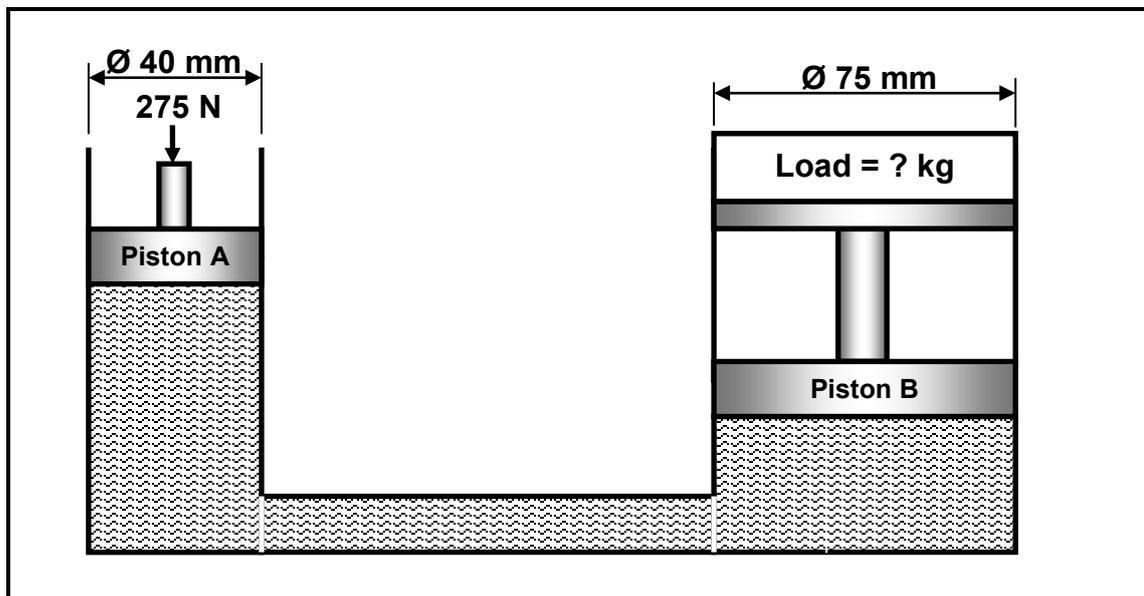

FIGURE 9.3
- 9.3 A hydraulic system is used to lift a lathe. The specifications of the system are presented diagrammatically in FIGURE 9.3.